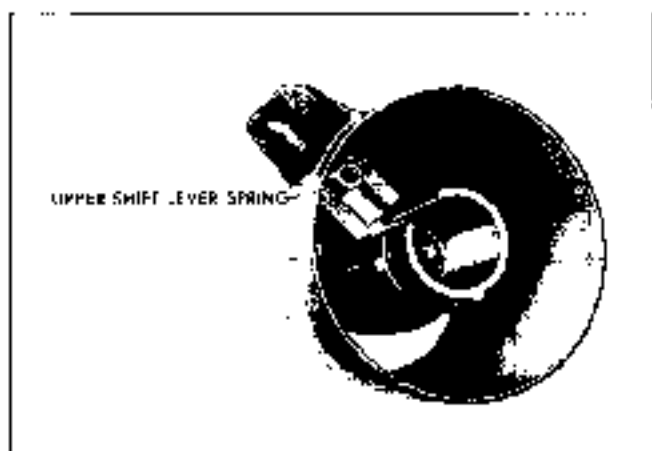

Fig. 9-30 Upper Shift Lever Spring
22. Remove the upper shift lever spring by winding it up with pliers and lifting it out of the shift bowl (see Figure 9-30), if shift bowl is being replaced.